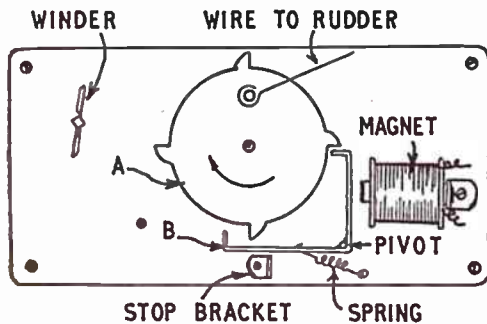

Fig. 1—The steering motor
the escapement piece (B) is attracted to it, the wheel tooth near the magnet is released, so that the wheel turns until the next tooth engages the end (B). When the circuit is broken, the escapement returns to the position shown in Fig. 1, but the wheel will have rotated one-quarter of a turn. The wheel can thus be brought to rest in any one of four positions. This gives right and left steering, and two positions where the rudder is straight.
The boat rudder is pivoted freely, and has a small crank at right angles to the rudder. The wire in Fig. 1 is long enough to reach this, and has a further loop at its other end, which slips over the crank. Having four teeth on the wheel (A) gives left and right steering (with straight ahead), but no intermediate rudder positions. This is the arrangement